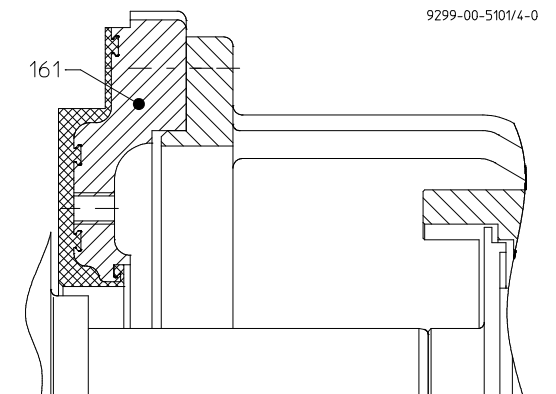

Fig. 3
- ◆ It is not possible to replace the plastic lining in the customer's workshop in the case of the anchored back plate **161**. See **Fig. 3**.